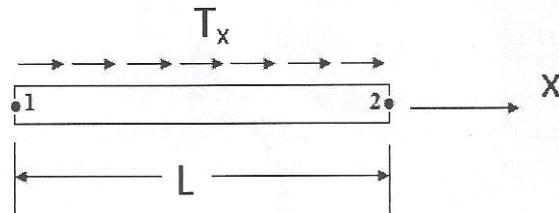

Figure 4A
- Q. 4 A Derive elemental stiffness matrix and force vector for two noded (linear) bar element using Principal of Minimum Potential Energy (PMPE) Method. The bar elements is oriented in x-direction as shown in Figure 4a. Use local coordinate (x) system for the derivation. Assume that only surface tractions (T_x) are acting on bar element. Ignore concentrated forces and the body forces. 10